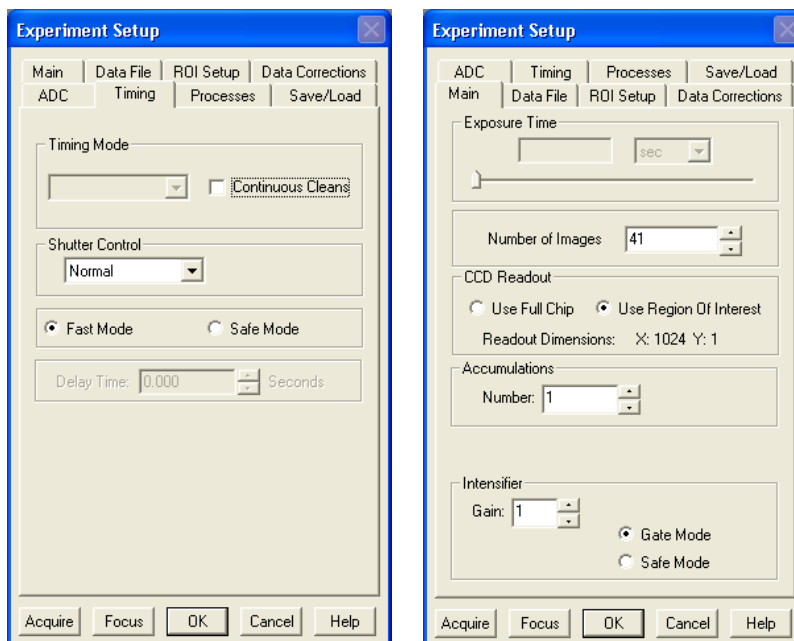

Figure 47. Experiment Setup: Timing and Main tabs
- a. On the **Timing** tab, change the timing as shown in Figure 47.